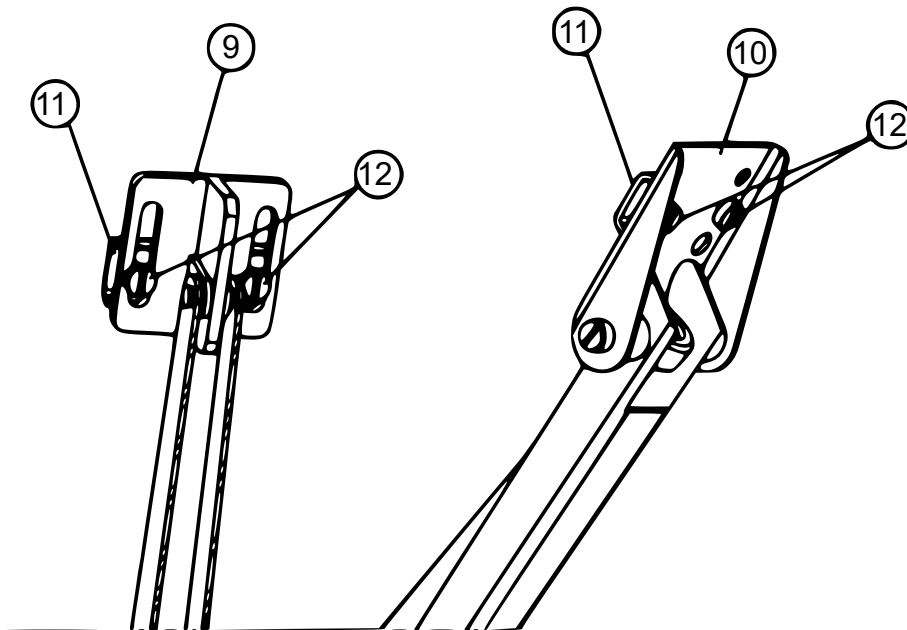

Figure 2
- Use screws (12) to loosely attach the two brackets (11) to the frame holder (10) (see fig. 2). Make sure that the upper side of the frame holder is close to the window frame. If the greenhouse is made of wood, the window and frame holder can directly be attached to the wood.